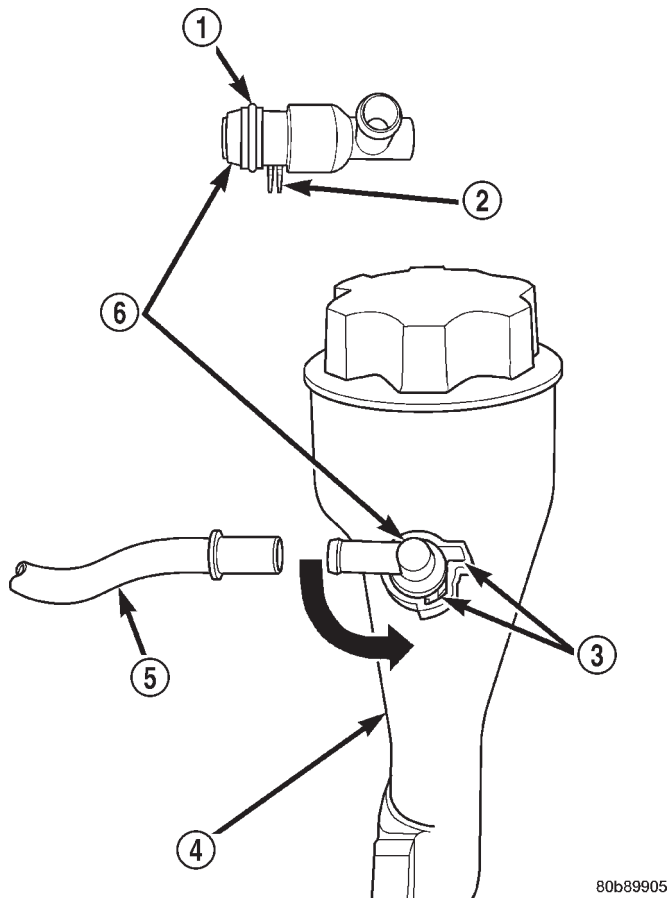

Fig. 9 PCV Valve/Oil Filler Tube (Housing)—4.7L Engine
- a PCV valve mounted to the oil filler housing (Fig. 9). The PCV valve is sealed to the oil filler housing with an o-ring.